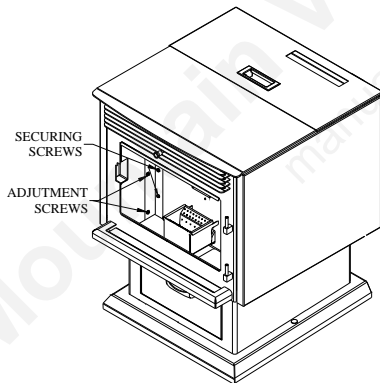
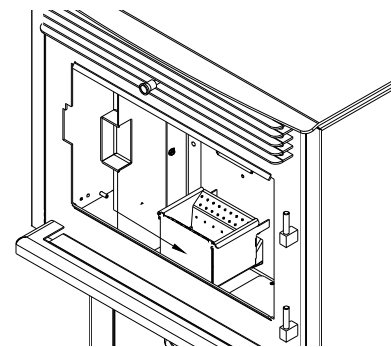
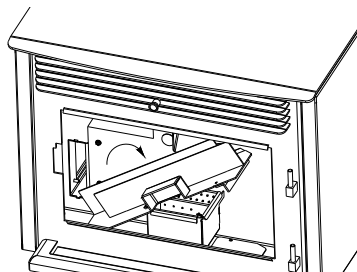
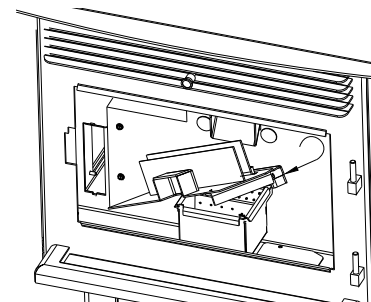

Figure 44
Figure 45
Figure 46
Figure 47
- Chamber walls:** Periodically, you must vacuum the ashes that may have accumulated on the main walls of the combustion chamber. **START BY REMOVING THE DECORATIVE MASONRY-LIKE PANELS, WHICH ARE SIMPLY HELD BY CLIPS.** The use of a vacuum is necessary. There is also a cleaning outlet located behind the left side panel of the combustion chamber. Remove this panel using a screw driver. Loosen the adjustment screws then remove the securing screws (Figure 44). Slide the wall toward right (Figure 45), tilt it (Figure 46) then remove it from the combustion chamber. Scrape off ashes. You will notice a small rectangular cleaning outlet. Inspect behind this outlet (see Figure 47) Insert the vacuum tip through the cleaning outlet and clean thoroughly. **REPEAT THIS OPERATION AT LEAST ONCE PER TON OF PELLETS BURNED UNTIL YOU ARE FAMILIAR WITH HOW ASHES ACCUMULATE WITH YOUR OPERATING PRACTICES.**